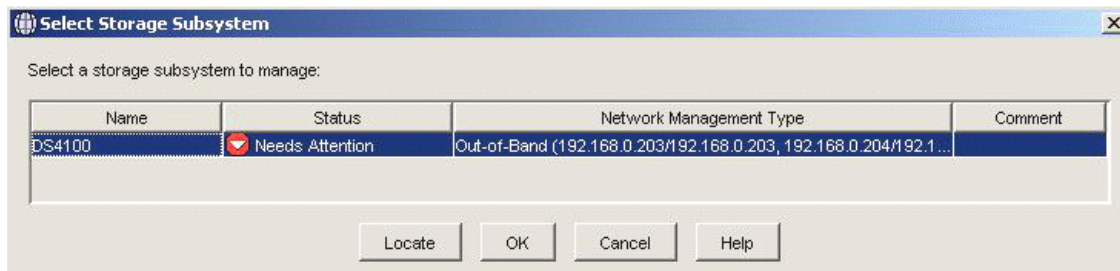

Figure 9-37 Select Storage Subsystem window
6. Click **Manage a Storage Subsystem**. You will see a window similar to Figure 9-37.